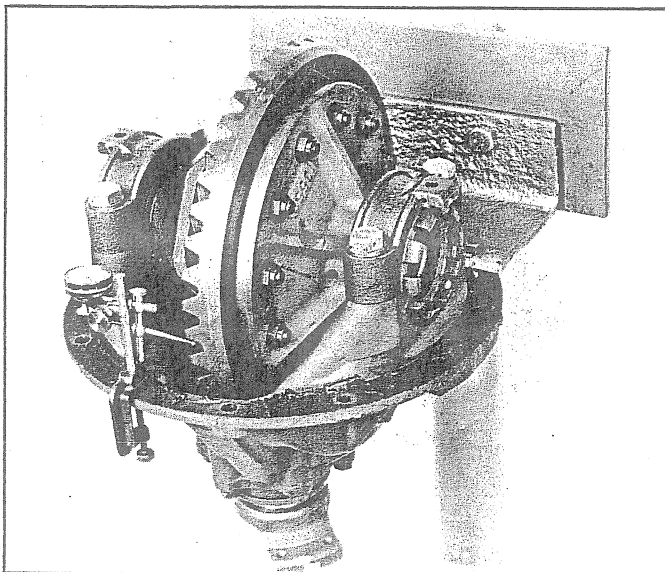

Fig. 120 - Checking Ring Gear and Pinion Backlash
19. Use a dial indicator as shown in Fig. 120 to check backlash between ring gear and pinion. Backlash is to be .008-.013 in., if new gear set is used, or the backlash noted at disassembly, if the gear set is not being replaced. Adjust as follows: